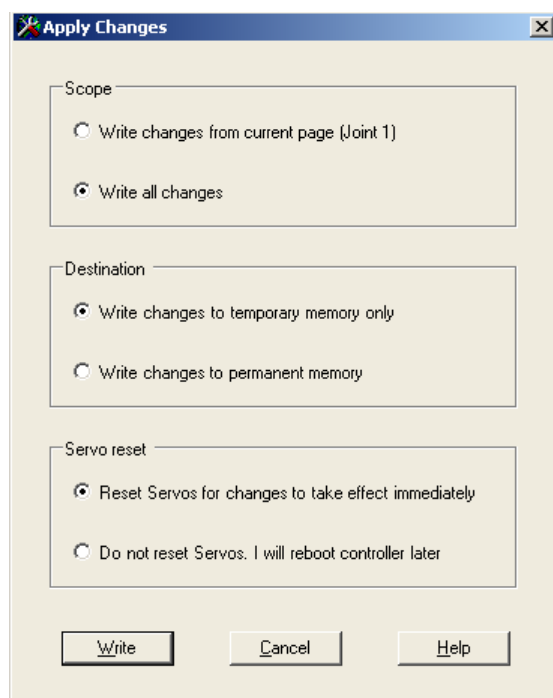

Figure 6-15. Configuration Manager - Apply Changes
- Click Apply. The Apply Changes window opens, as illustrated in Figure 6-15.